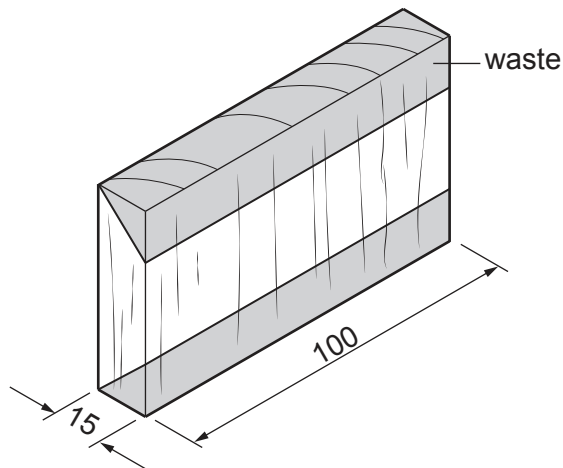

Fig. 13.5
- (d) The sides of the base, made from mahogany, will be joined by means of mitre joints. Fig. 13.5 shows a mitre joint marked out on the end of one side.